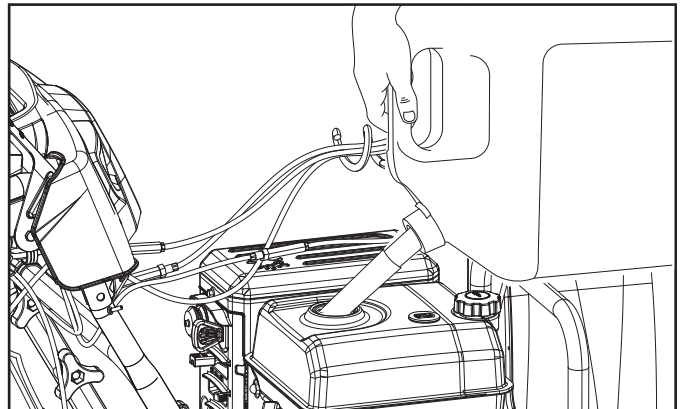

Figure 8
2. Add fuel to the bottom of the fuel level limit in the neck of the fuel tank. Do not overfill. Wipe up spilled fuel before starting the snowblower. Fuel tank capacity: 0.7 gal. (2.6 L) (Fig. 8).